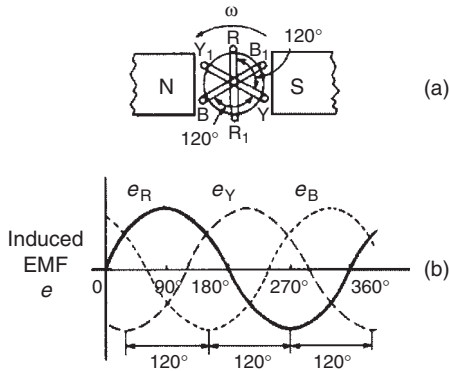

Figure 20.2
A **three-phase supply** is generated when three coils are placed  $120^\circ$  apart and the whole rotated in a uniform magnetic field as shown in Fig. 20.2(a). The result is three independent supplies of equal voltages which are each displaced by  $120^\circ$  from each other as shown in Fig. 20.2(b).
- The convention adopted to identify each of the phase voltages is: R-red, Y-yellow, and B-blue, as shown in Fig. 20.2
If the three-phase windings shown in Fig. 20.2 are kept independent then six wires are needed to connect a supply source (such as a generator) to a load (such as motor). To reduce the number of wires it is usual to interconnect the three phases. There are two ways in which this can be done, these being: